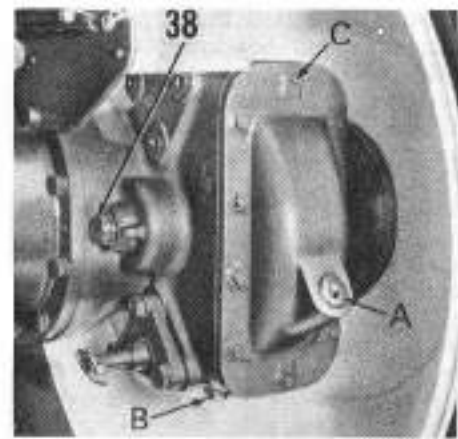

Fig. 126—View showing location of model 1200 axle bearing adjusting screw at inner side of final drive housing
Fig. 125—Exploded view of model 1200 final drive assembly. Axle shaft bearings are adjusted by varying shims under cap screw (38) head; refer also to Fig. 126. Thrust plate (35) and taper roller bearing (31) are located in blind bore (except for tapped hole for cap screw) and can be removed after removing axle (16) and axle gear. Remove cap screw (38) and tap thrust plate and bearing cap out with punch.
Refer to Fig. 126, cut locking wire and back adjusting screw (38) out.
If removed, install thrust plate (35—Fig. 125) and bearing (31) cup in final drive housing and stick bearing cone in cup using heavy grease. Thoroughly clean splines in gear and on axle shaft, apply Locquic primer to shaft splines, then coat shaft splines with Loctite. Position axle gear in housing, place new gasket (23) on axle shaft and insert end of axle shaft in gear. Install locking plate (29), ring nut (30) and the oil seal housing retaining cap screws. Note: Position oil seal housing with grease fitting at 7 O'clock position. Tighten ring nut to securely clamp axle gear, spacers and bearing on axle shaft, then bend tabs of locking plate to retain nut. Tighten oil seal housing cap screws to a torque of 50 Ft.-Lbs. Remove bearing adjusting screw (38) and bump outer end of axle shaft with soft faced hammer to be sure inner bearing cone is seated, then reinstall adjusting screw without shims (37). Tighten adjusting screw so that end play of axle shaft is removed, but bearings are not preloaded, then measure gap between adjusting screw head and final drive housing (see Fig. 126). Remove the adjusting screw and install shims of thickness equal to measured gap less 0.006 shim thickness. Firmly tighten the adjusting screw and secure with wire to hole in final drive housing web. Pump grease into fitting in oil seal housing until grease appears between oil seal housing and axle flange. Reinstall final drive cover with new gasket, making sure drilled breather bolt is installed in upper bolt hole, and tighten all cap screws to a torque of 30 Ft.-Lbs. Refill to oil level plug with SAE 140 gear lubricant.